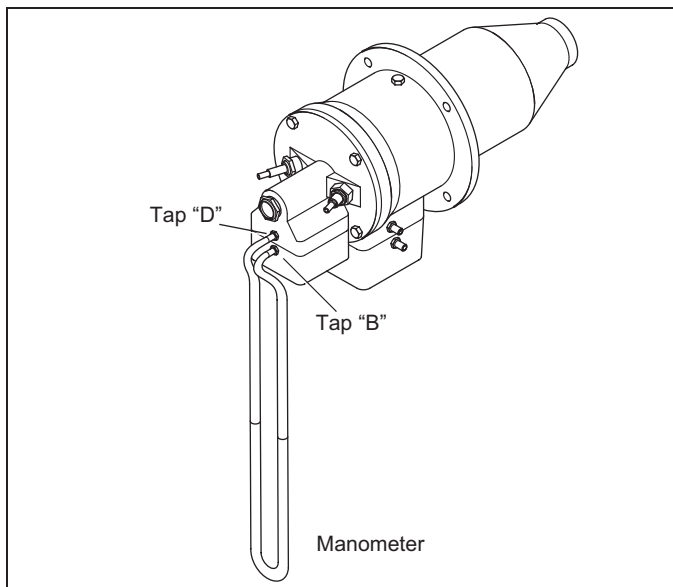

Figure 4.4. Set High Fire Air
Step 6: Set High Fire Gas (Figure 4.4)